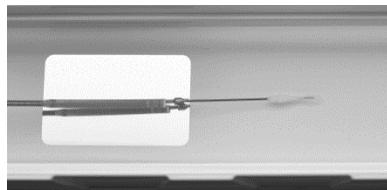

Figure 10
5. Submerge the capsule completely in the cold saline bath while flushing the capsule flush port. Continue flushing the capsule until it is completely submerged in the bath to prevent air from entering the catheter (Figure 10).